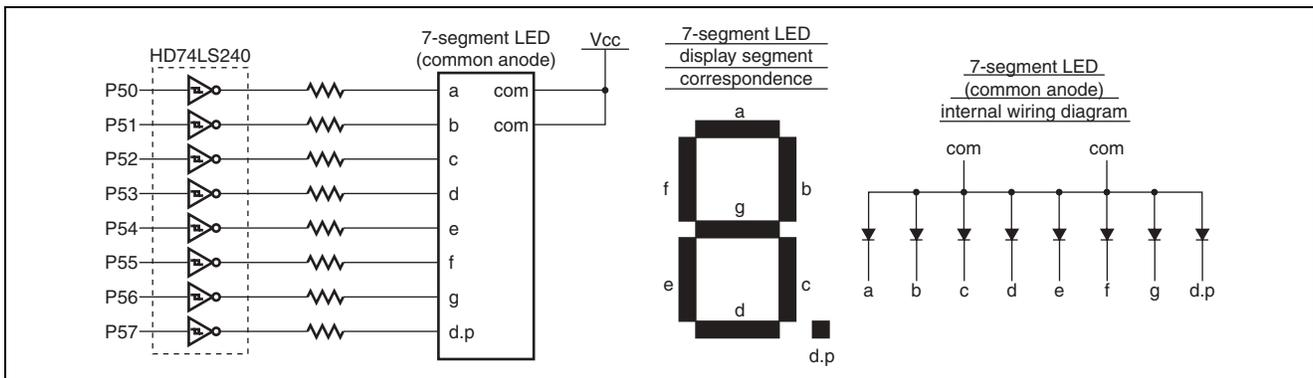

Figure 2.2 7-Segment LED Connection Diagram and Internal Wiring
2. Figure 2.2 shows how the 7-segment LED used in this task is connected. A high output from port 5 lights up the corresponding segment as shown by the figure. Table 2.2 shows the relationship between the output from port 5 and the display on the LED.